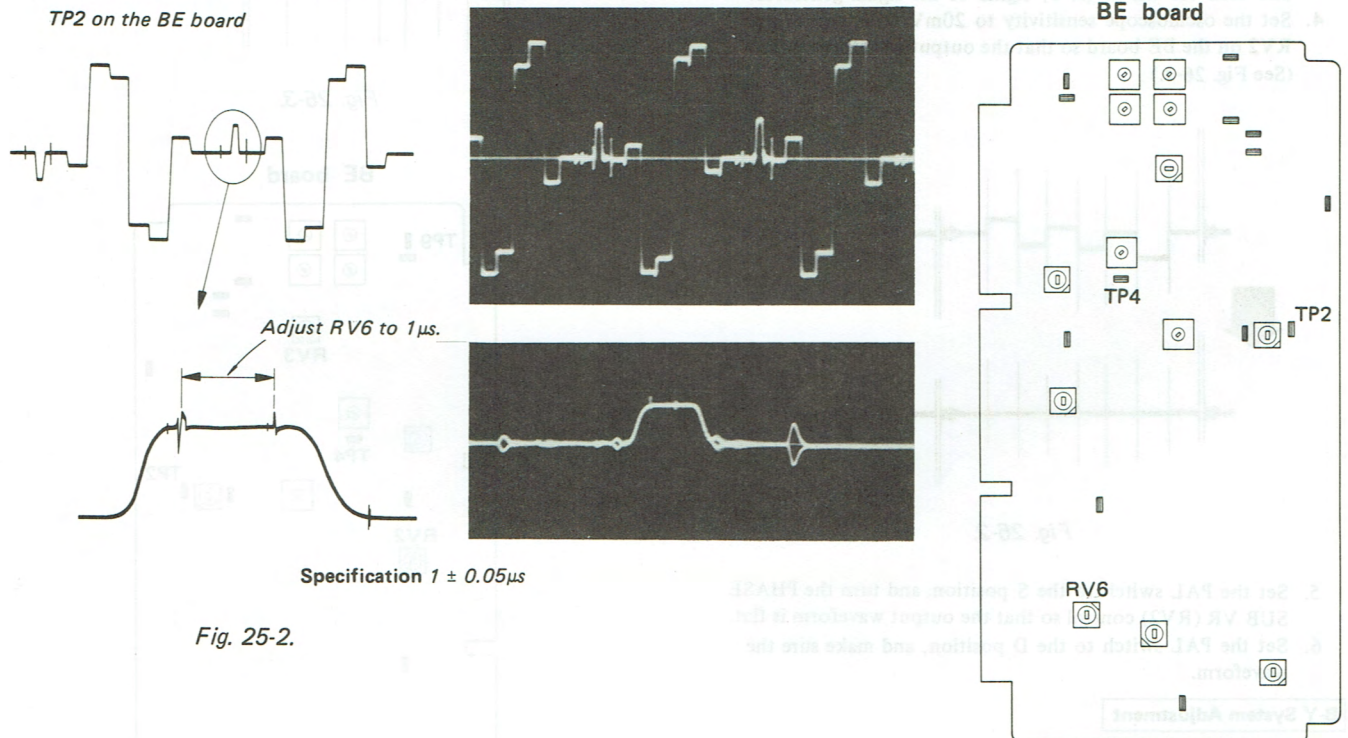

Fig. 25-2.
4. Adjust RV6 on the BE board so that the burst clamp pulse width is $1\mu\text{s}$. (See Fig. 25-2.)